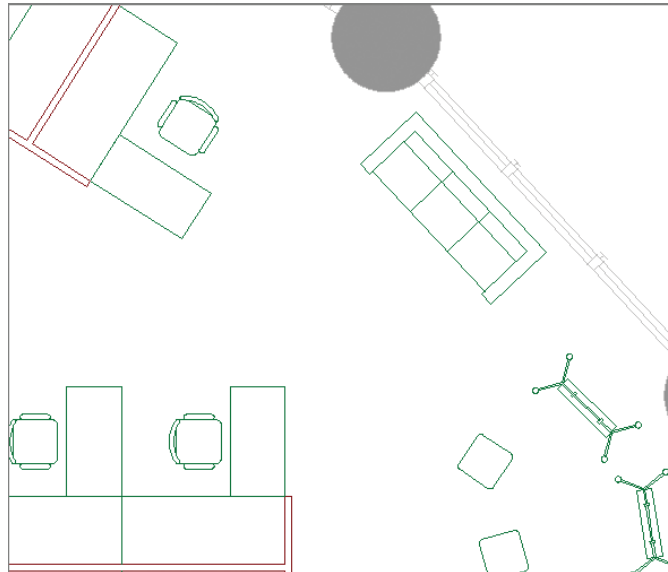

FIGURE 9.9 Inserting the new sofa
6. Click approximately where you deleted the armchairs and side table to insert a Sofa2 block reference in the drawing, and estimate the rotation angle so that the sofa is parallel to the exterior wall (see Figure 9.9).